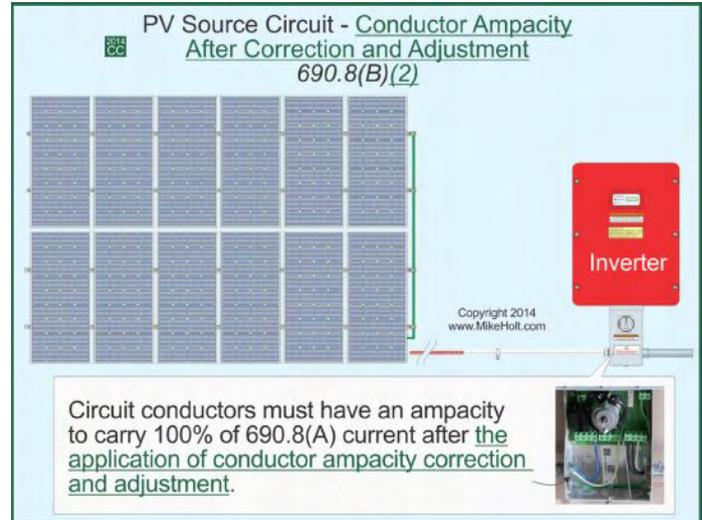

Figure 690-44
**(2) After Ampacity Correction or Adjustment.** Circuit conductors must have an ampacity to carry 100% of 690.8(A) current after the application of conductor ampacity correction [310.15(B)(2)(a) and 310.15(B)(3)(c)] and adjustment [310.15(B)(3)(a)]. **Figure 690-44**